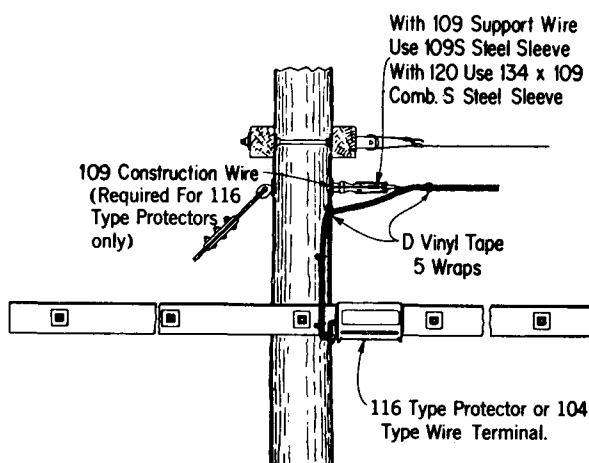

Fig. 14 – Crossarm or Wire Deadend Pole
4.03 At wire deadend poles involving crossarms, the wire terminals or protectors can be located on the crossarm as shown in Fig. 14.